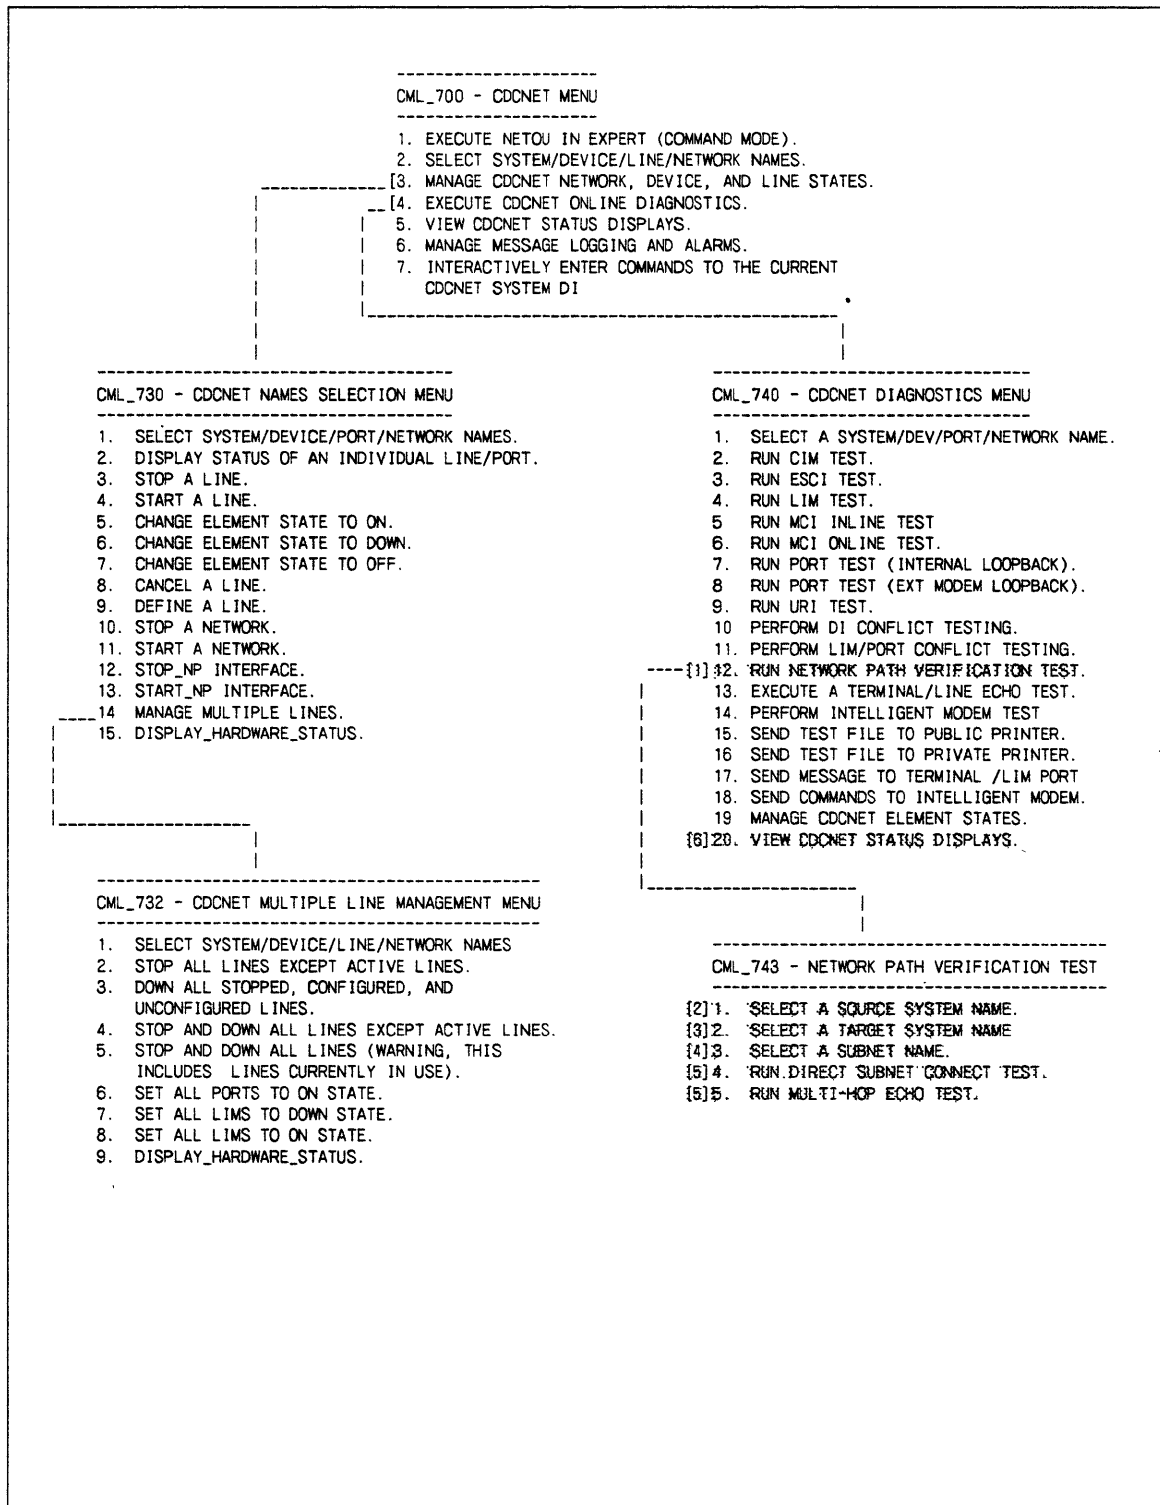

Figure 6-30. CML/VE Menus for Network Path Verification Test
The following shows the CML/VE menu choices necessary to run the network path verification test. Each menu choice is shown on figure 6-30 and described below. The purpose of this topic is to serve as a quick reference for the most frequently used menu selections. See chapter 4 for a complete description of CML/VE. Familiarize yourself with the test notes and procedure given earlier in this topic before running the test.
1. Numbers in this column correspond to the bracketed numbers (for example, [1]) on figure 6-30.